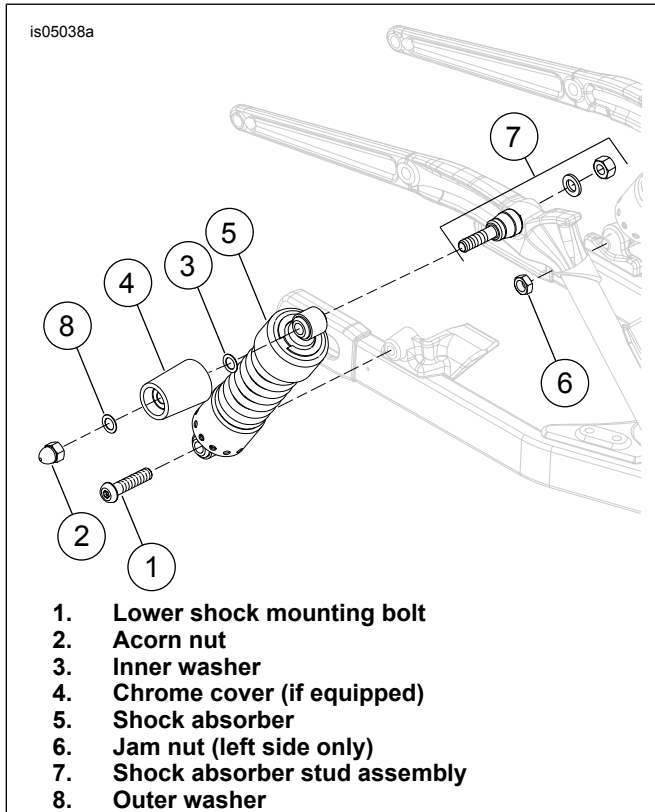

Figure 2. Remove Stock Shock Absorber (2008-Later Models)
1. See Figure 2. Remove lower shock mount bolt (1) and jam nut (6) (only on left side). Save jam nut for installation.
2. Remove acorn nut (2), inner washer (3), chrome cover (4), outer washer (8) and shock absorber (5).
3. Discard chrome covers, (if equipped) and all hardware except jam nut (6).
4. Remove and discard shock stud assembly (7).